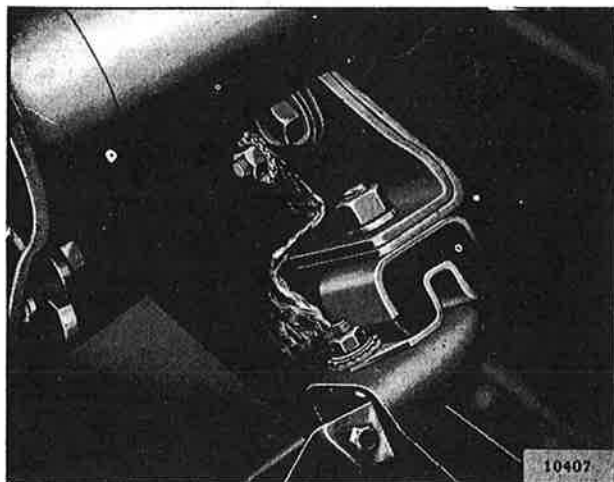

FIG. 140—ENGINE GROUND STRAP
g. Be sure the engine ground strap connection, Fig. 140, is tight at both connections. If these connections are loose or dirty, hard starting or failure to start may result.